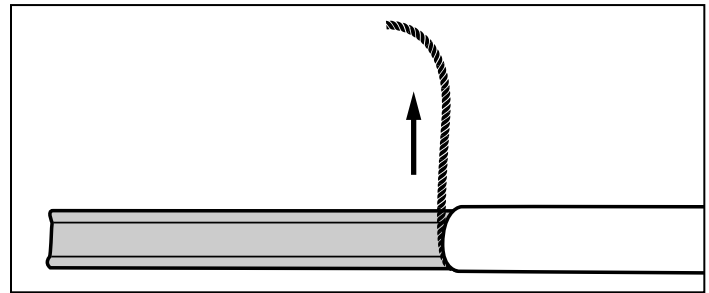

Figure 15-11
15.4.2. SEPARATE METALLIC BRAID AND FORM A PIGTAIL (Figure 15-11)